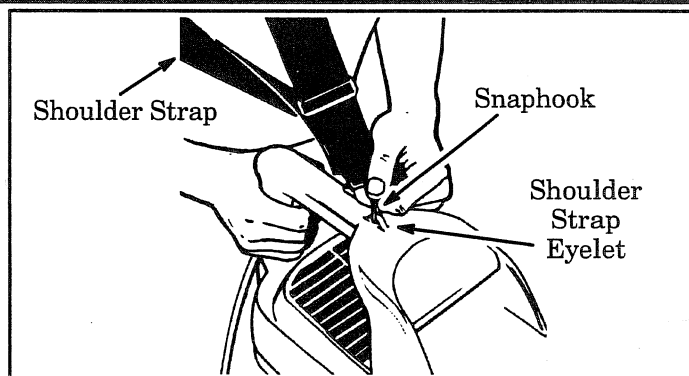

Figure 2
3. Attach the snaphook to the shoulder strap eyelet on the top side of the handle. Figure 2.